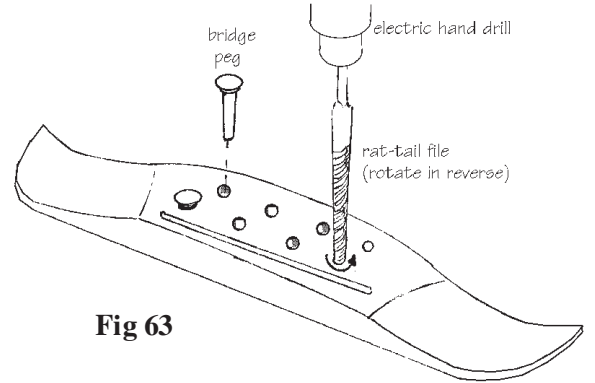

Fig 63
63. Drill through the remaining holes in the bridge with the 3/16" bit provided. These holes need to be slightly tapered to accept the bridge pegs. A cheap and simple way to do that is to use a small (6") rat-tail file (fig 63). You can chuck it into your hand drill and spin it in reverse as you push it gently into the hole. Be careful not to file too far -- it is best to fit the pegs fairly snugly.